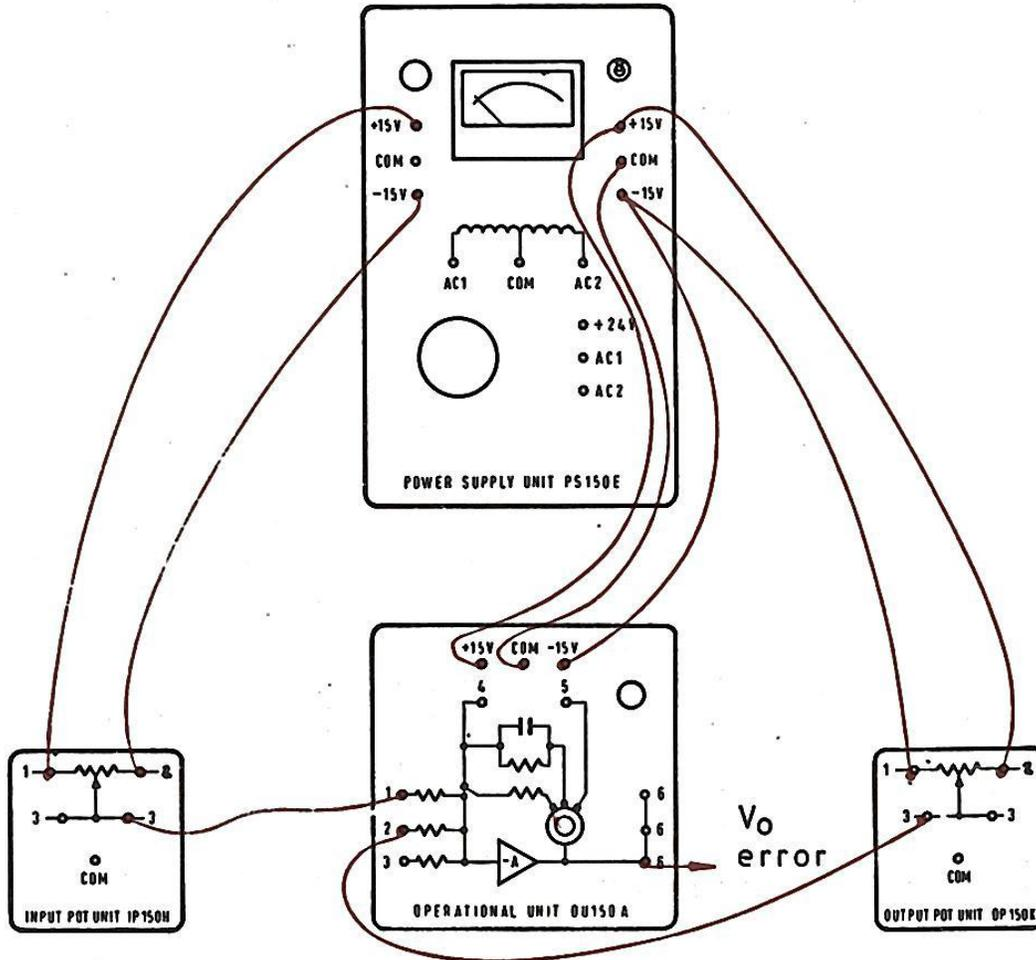

Figure-2: Error Channel Set Up
- The resistance between slider (3) and the input terminal (1) is same on both input and output potentiometers for all angular positions. If not, then loosen the dial and make an adjustment.
- As in figure-2, connect the rotary potentiometer with opposite polarities. This is very important otherwise the signals when summed will not cancel.